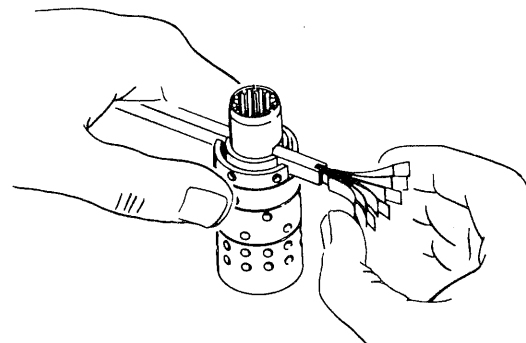

Fig. 139
- (7) Place spool-sleeve assembly (17) (18) on work bench with spring side up. Insert spring (19) into spring notches using a tool (No. 600057) as follows:
Insert six springs (19) (with each spring notch down) into tool (No. 600057) so that three of them may be arranged back to back with other three. Lifting spool (18) slightly from sleeve (17) will make the insertion easy (Fig. 139).